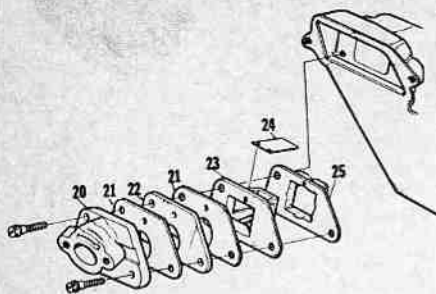

Fig. HL3—View showing earliest production reed valve and spacer installation.
**Fig. HL2—Throttle handle exploded view showing carburetor and reed valve installation, throttle trigger, choke rod and related parts. Latest type reed valve installation is shown. Refer to Fig. HL3 & HL4 for earlier production**